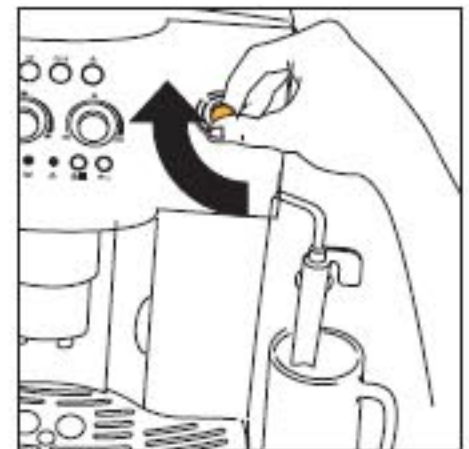
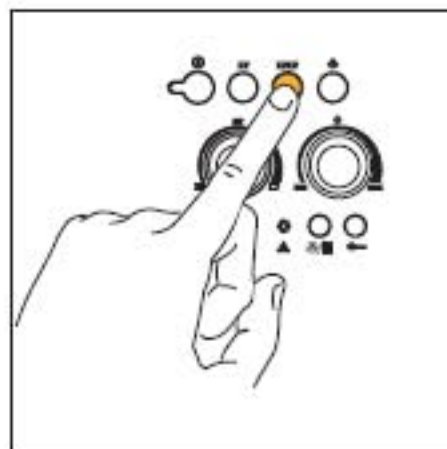
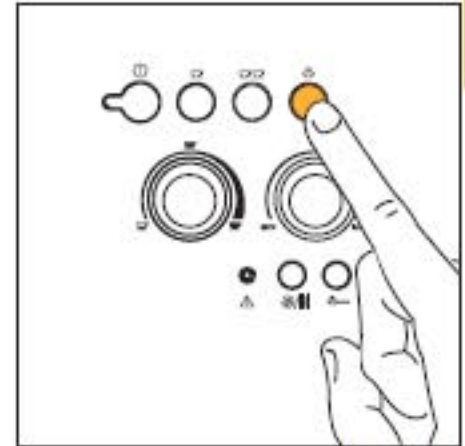
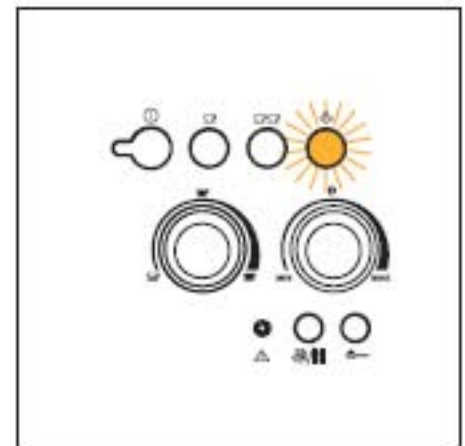

Fig.6
Fig.13
Fig.21
Fig.22
4. After few seconds, a little water will come out of the milk frother. When there is around 30cc in the cup, turn the steam knob half a turn clockwise (Fig.6) until it stops, so as to stop the water coming out.
- 5) Press the ☕ button (Fig. 12) to make one cup of coffee or the ☕☕ button (Fig. 13) to make 2 coffees. *At this point the machine grinds the beans, runs a short pre-infusion cycle, a pause and then completes the delivery.*
NOTE 4: while the machine is making the coffee, the delivery can be stopped at any time by pressing the ☺ button (Fig. 12) or ☺☺ button (Fig. 13), as previously selected.
NOTE 5: as soon as delivery is complete, to increase the quantity of coffee, simply press and hold the ☺ button (Fig. 12) or ☺☺ button (Fig. 13), as previously selected, until reaching the desired quantity (this operation must be performed within 3 seconds from the end of the delivery of the coffee from the spouts).
- To stop the flow of hot water, turn the knob all the way clockwise (Fig. 6) and return the milk frother to the original position towards the centre of the machine. (It is recommended to deliver hot water for no more than 2 minutes).
- Then press the steam button (Fig. 21). The ☁ light (Fig. 22) starts flashing to indicate that the machine is heating up.
- Once having reached the desired temperature, stop the steam by turning the steam knob clockwise until it stops (Fig. 6) and then press the steam button (Fig. 21) to deactivate the steam function ☁.
NOTE 1: : immediately after having prepared the cappuccino, once having pressed the steam button ☁ Fig. 21) to deactivate the function, when pressing the ☕ (Fig. 12) or ☕☕ button (Fig. 13) to make coffee again, the machine is too hot to make coffee (the green ☕ and ☕☕ lights flash to indicate that the temperature is not suitable); simply wait around ten minutes for the machine to cool down a little.